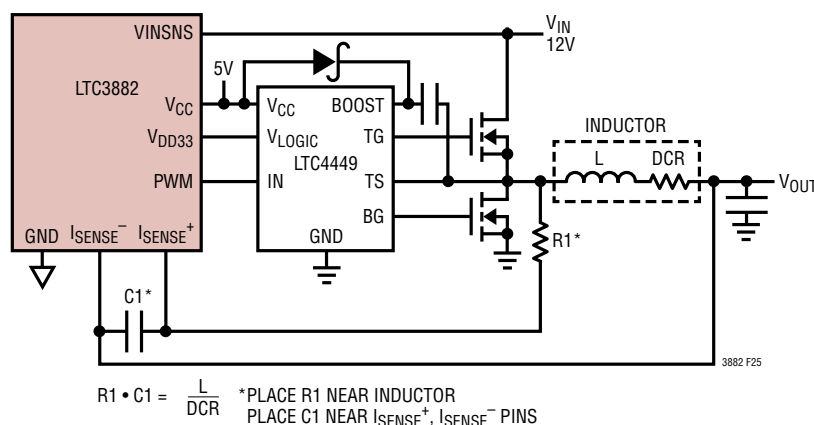

Figure 25. Inductor DCR Output Current Sense
5. Place the output current sense resistor (if used) immediately adjacent to the inductor output. PCB traces for remote voltage and current sense should be run together back to the LTC3882 in pairs with the smallest spacing possible on any given layer on which they are routed. Avoid high frequency switching signals and ideally shield with ground planes. Locate any filter component on these traces next to the LTC3882, and not at the Kelvin sense location. However, if DCR sensing is used, place the top resistor (R1, Figure 25) close to the switch node.
To maximize efficiency at full load the LTC3882 is designed to sense current through the inductor's DCR, as shown in Figure 25. The DCR of the inductor represents the small amount of DC winding resistance of the copper, which for most inductors suitable to LTC3882 applications, is between $0.3\text{m}\Omega$ and $1\text{m}\Omega$. If the filter RC time constant is chosen to be exactly equal to the L/DCR time constant of the inductor, the voltage drop across the external capacitor is equal to the voltage drop across the inductor DCR. Check the manufacturer's data sheet for specifications regarding the inductor DCR in order to properly dimension